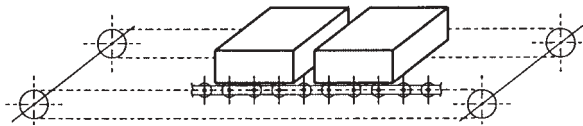

Figure 2.22 Tension on a Horizontal Conveyor
The tension (T) in a horizontal conveyor, like that in Figure 2.22, is basically calculated by this formula: